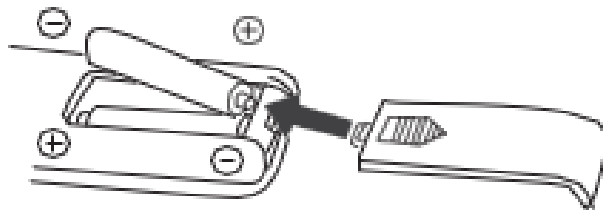

Fig 2
2. Insert the batteries and make sure that they are placed as shown in figure 2.